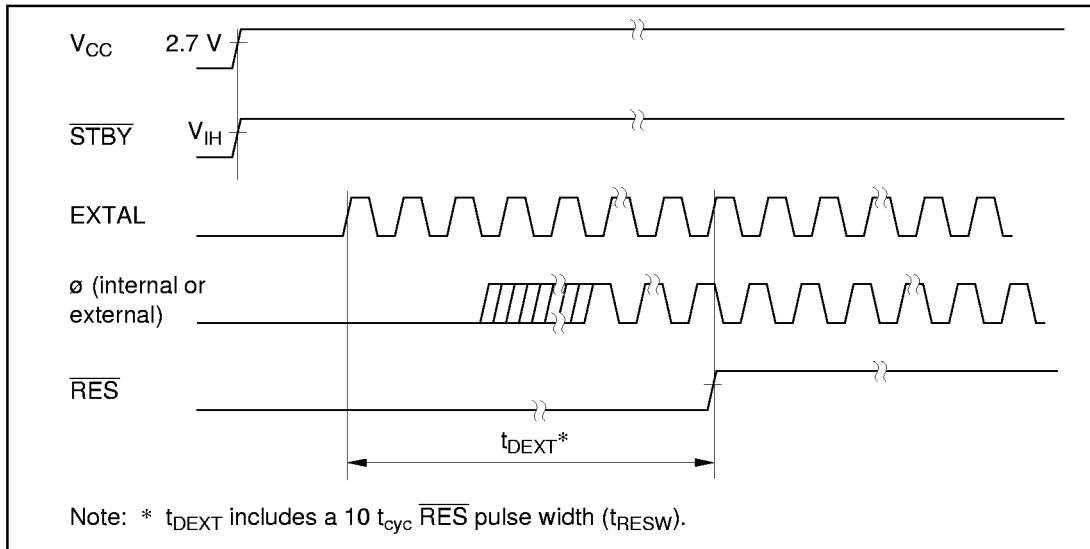

Figure 22-23 External Clock Output Stabilization Delay Time
22.3.11 External Clock Output Timing	Figure 22-23